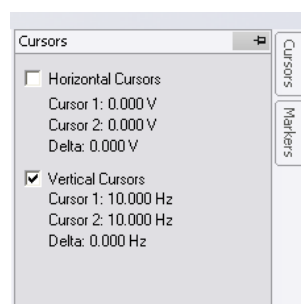

Figure 4-3: Cursors Menu
- 6) The cursor functionality for the *Spectrum Analyzer* can be used similarly as in the *Oscilloscope* function. Choose the “Cursors” tab along the right-hand side of the window to view the pop-up menu. To dock this menu, choose the pushpin icon . Choose the cursors desired by clicking in the checkbox next to the appropriate cursor, shown in Figure 4-3.